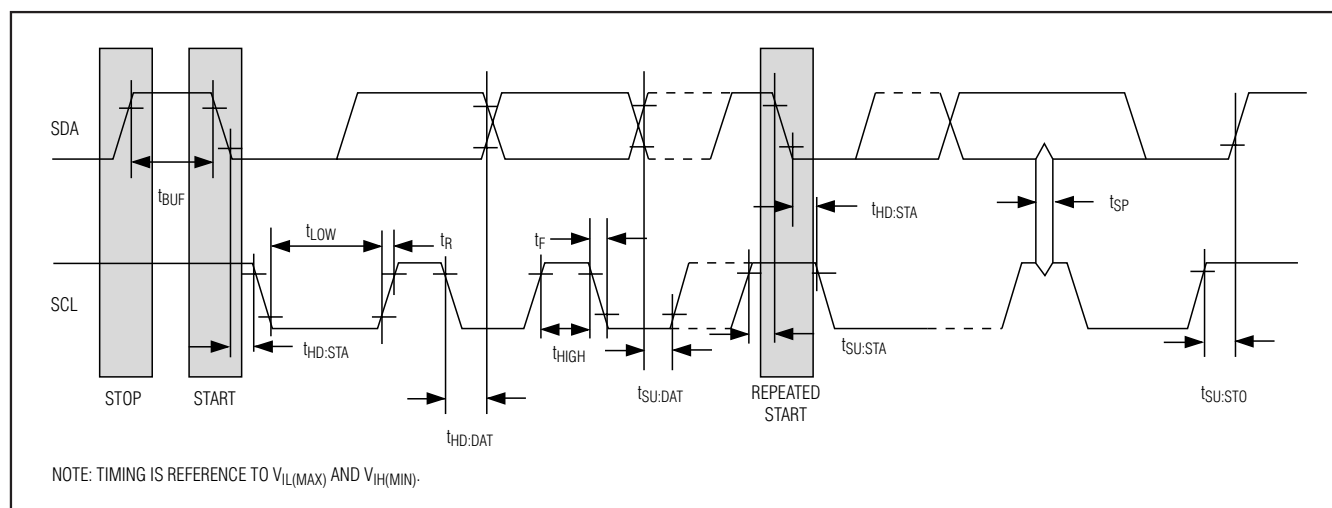

Figure 9. I2C Timing Diagram
**Bit Write:** Transitions of SDA must occur during the low state of SCL. The data on SDA must remain valid and unchanged during the entire high pulse of SCL plus the setup and hold time requirements (see Figure 9). Data is shifted into the device during the rising edge of the SCL.
**Bit Read:** At the end of a write operation, the master must release the SDA bus line for the proper amount of setup time (see Figure 9) before the next rising edge of SCL during a bit read. The device shifts out each bit of data on SDA at the falling edge of the previous SCL pulse and the data bit is valid at the rising edge of the current SCL pulse. Remember that the master generates all SCL clock pulses including when it is reading bits from the slave.
**Acknowledgement (ACK and NACK):** An acknowledgement (ACK) or not acknowledge (NACK) is always the 9th bit transmitted during a byte transfer. The device receiving data (the master during a read or the slave during a write operation) performs an ACK by transmitting a zero during the 9th bit. A device performs a NACK by transmitting a one during the 9th bit. Timing (Figure 9) for the ACK and NACK is identical to all other bit writes. An ACK is the acknowledgment that the device is properly receiving data. A NACK is used to terminate a read sequence or as an indication that the device is not receiving data.